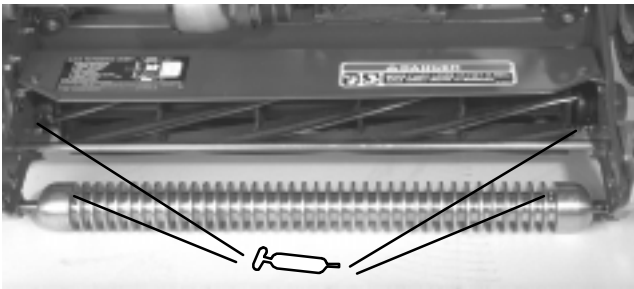
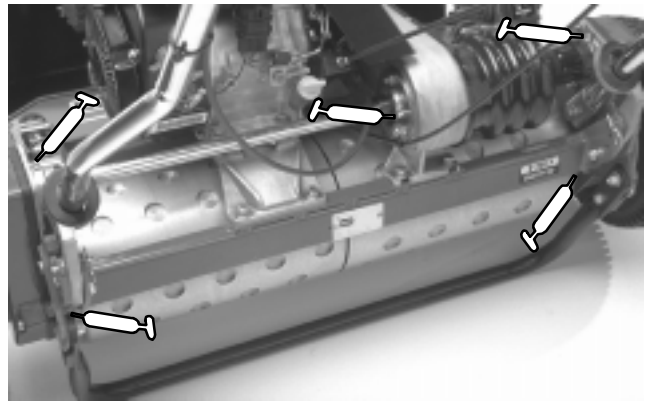

Figure 22
Figure 23
2. The grease fitting locations are: (2) on Front Roller (Fig. 22), (2) on reel bearings (Fig. 22), (2) on Drum Axles (Fig. 23), (3) on Differential (Fig. 23), (2) on Reel Countershaft Bearings (Fig. 24) and (2) on Belt Idler Pivots (Fig. 25).